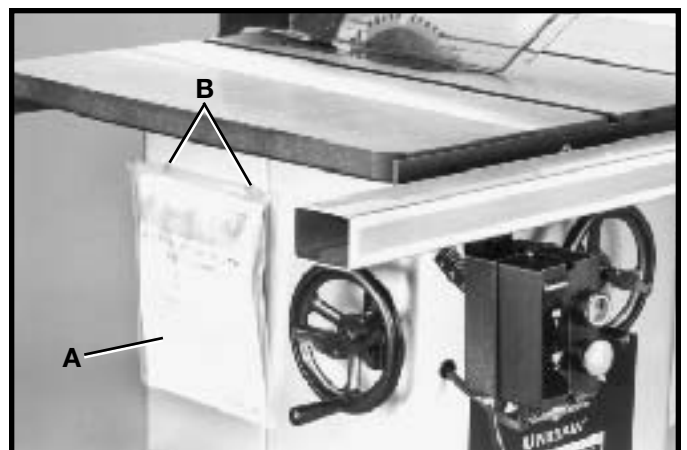

Fig. 49
A literature holder (A) Fig. 49, is supplied with your saw to provide storage and protection for the machine's instruction manual, parts list, etc., so they may be readily available for reference. Two push rivets (B) are supplied to attach the literature holder to the left side of the saw cabinet, as shown.